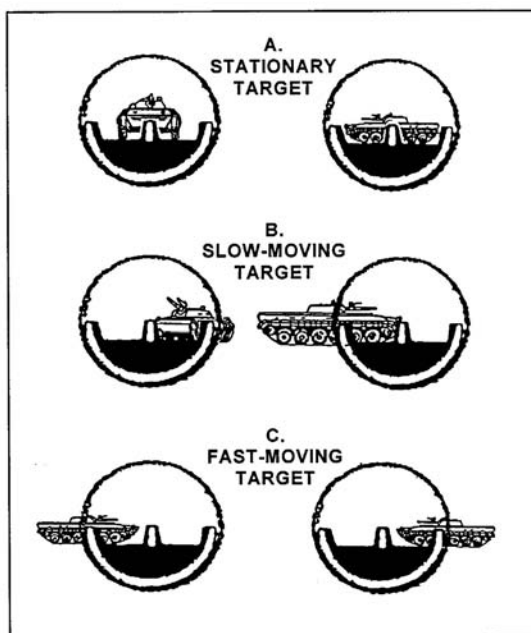

Figure 071-054-0004-6. Correct placement of the front sight lead posts
(2) Slow moving targets (less than 10 miles per hour). Place the center post on the front leading edge of the vehicle (B, figure 071-054-0004-6). This procedure also applies to vehicles moving at an oblique (at all speeds).
(3) Fast moving targets (more than 10 miles per hour).